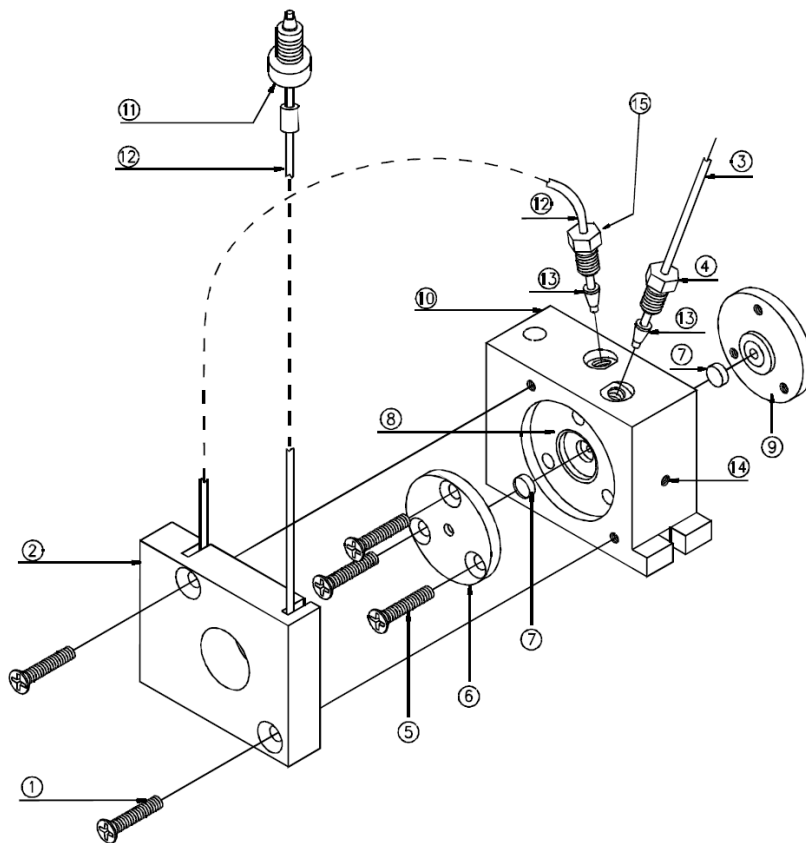

Figure 10. Standard flow cell (See Table 3 for the description of each part).
Note: To clean the flow cell, follow the steps below and refer to Figure 10 for the part numbers which are in parentheses. When cleaning the flow cell, only the lens retaining plates and the lenses may be removed. Do not attempt to remove the flow cell body (8) from its housing (10). Clean the flow cell body together with the housing.
- 8.9.2.1. Undo and remove the screws (1) and remove the heat exchanger (2).